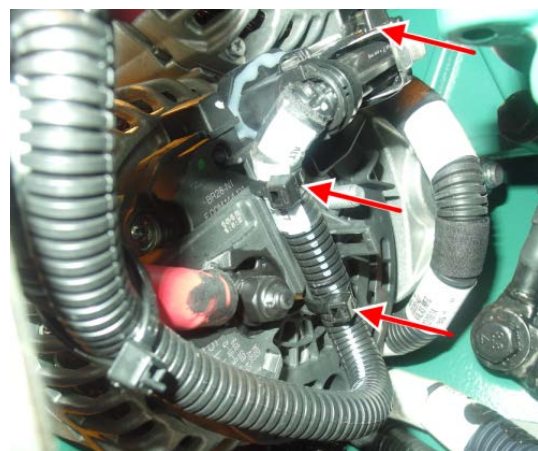

FIGURE 22
27. On the lower alternator, plug alternator harness onto alternator connector and secure using nylon cable ties P/N 504637 positioned as shown by red arrows on **FIGURE 22**.